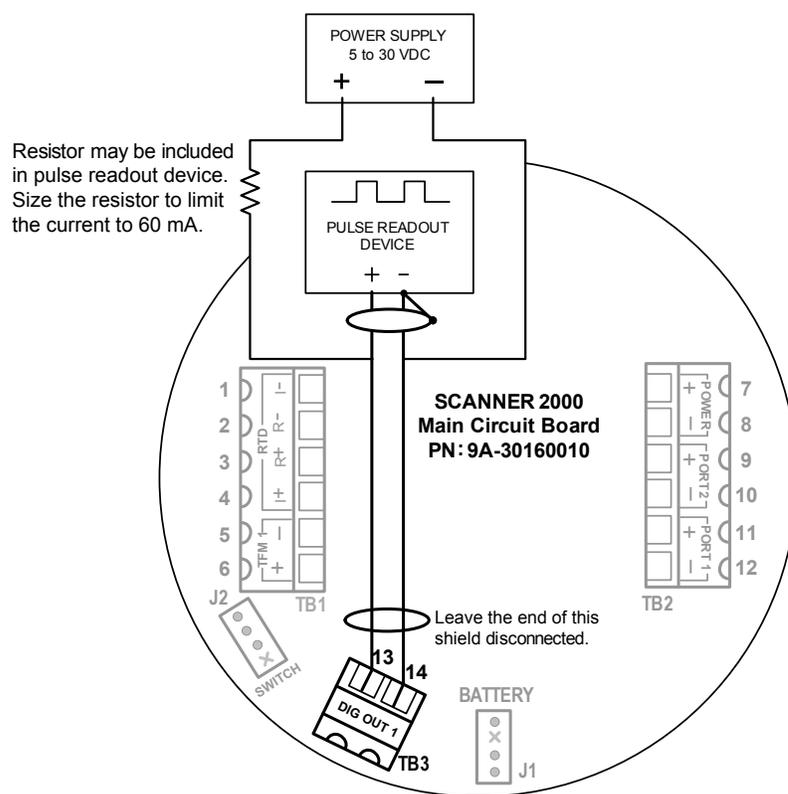
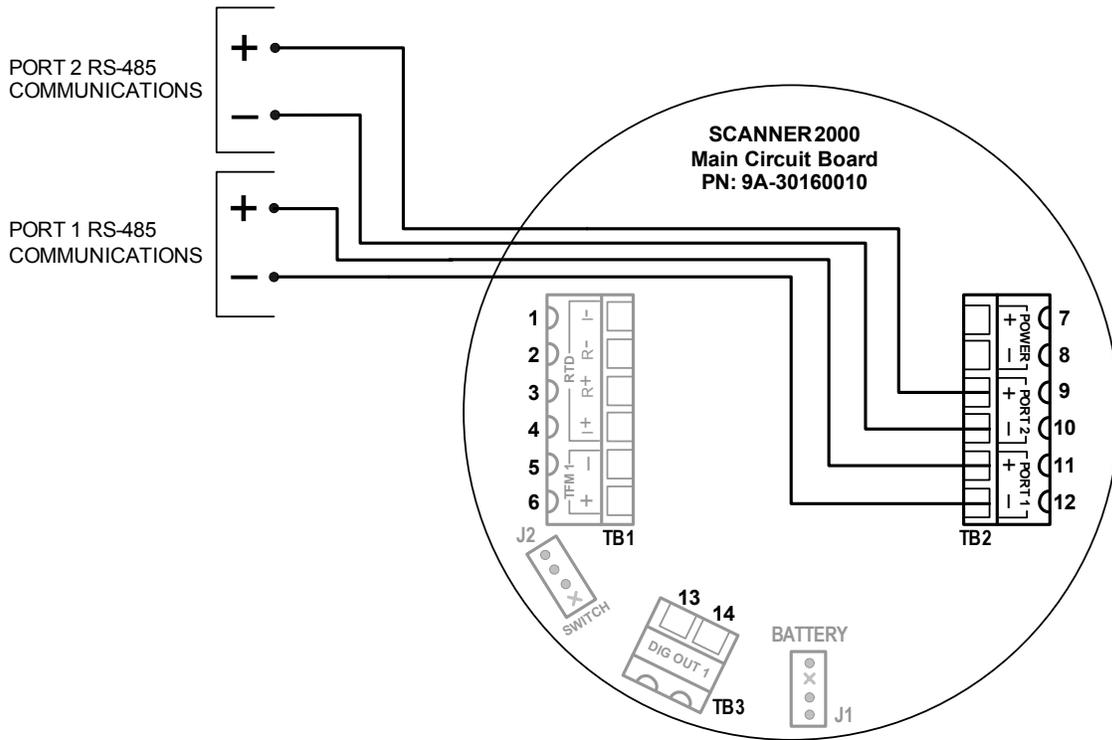
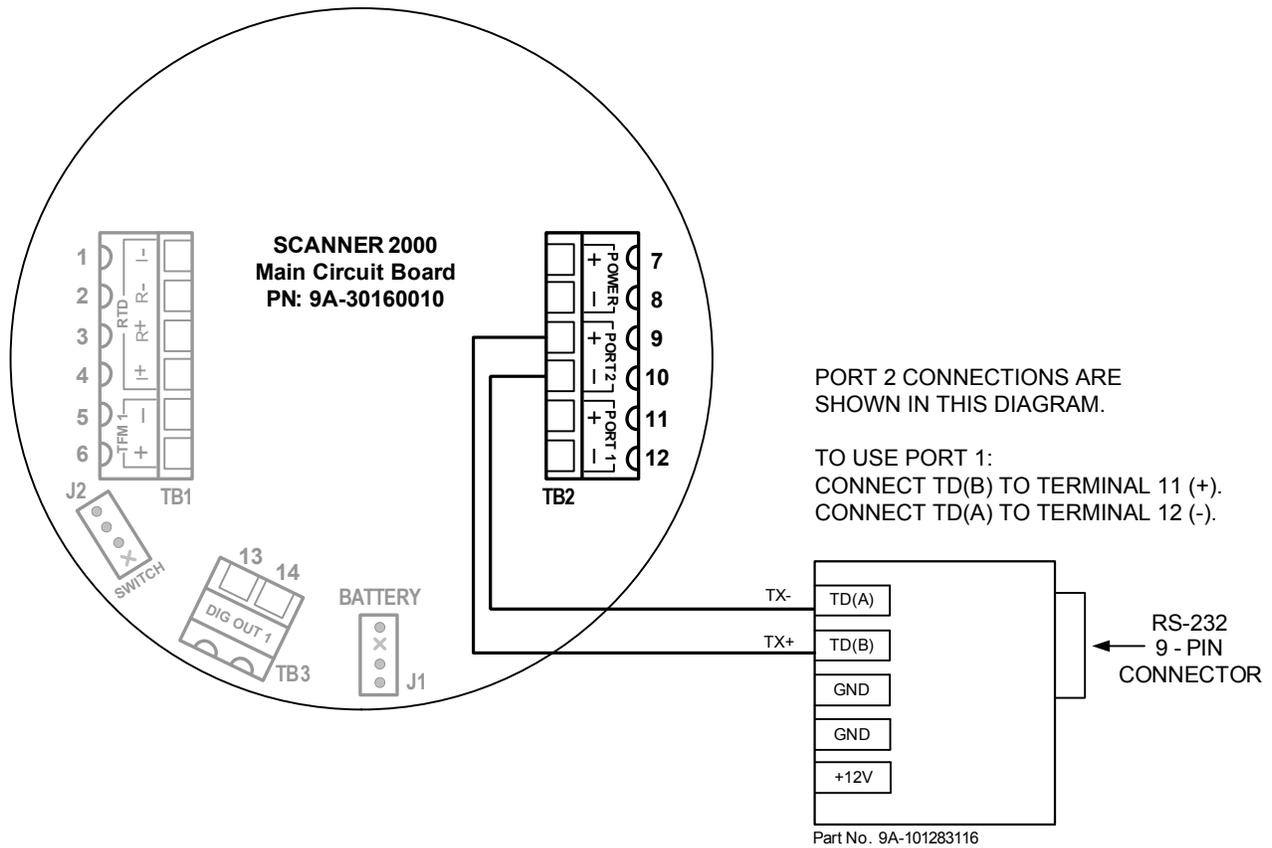

Figure 3.6 - Pulse output wiring
Figure 3.7 - RS-485 output (permanent connection)
Figure 3.8 - RS-485 output (connection to laptop with 9-pin converter)
8. Connect wiring for output signals, if appropriate. See Figure 3.6, page 65, Figure 3.7, page 66, and Figure 3.8, page 67. If the instrument is equipped with an expansion board, connect wiring for expansion board inputs/outputs, if appropriate. See page A-9 for expansion board wiring diagrams.
The standard Scanner 2000 supports a solid-state digital output that is configurable as either a pulse output or an alarm output. As a pulse output, the pulse width duration and pulse representation are both configurable. Because the circuit is isolated, it can be used in conjunction with any other feature on the Scanner 2000. A two-conductor cable from the Scanner 2000 to the remote location is required. The maximum rating of the digital output circuit is 60 mA at 30 VDC. Maximum frequency is 50 Hz. Wire as shown in Figure 3.6.
The RS-485 output is required for communication with the interface software. The wiring diagram in Figure 3.7 supports a permanent connection.
The RS-485 output is required for communication with the interface software. The wiring diagram in Figure 3.8 supports a temporary laptop connections using an RS-232 to RS-485 converter.
An RS-232 to RS-485 converter or NuFlo USB adapter is required for connecting the flow computer to a laptop or PC. The converters available from Sensia require no handshaking or external power to operate. See Spare Parts for ordering information; see Figure 3.7, page 66, and Figure 3.8, page 67, for wiring instructions.